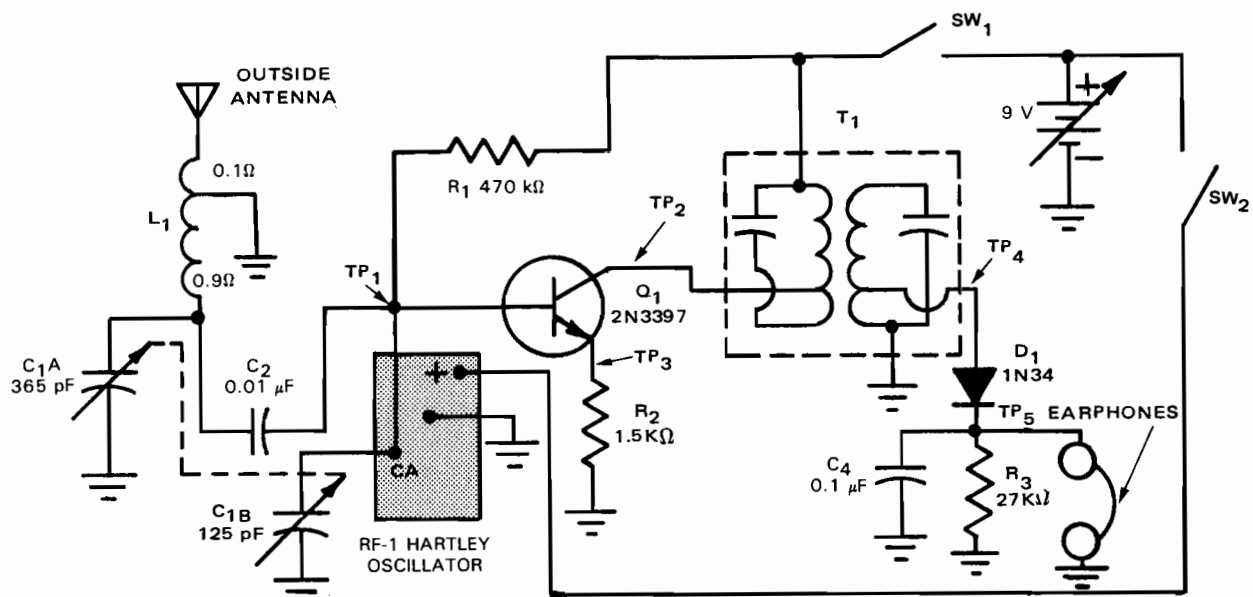

Fig. 20-4-1
1. Construct heterodyning circuit like that which is shown in Fig. 20-4-1.